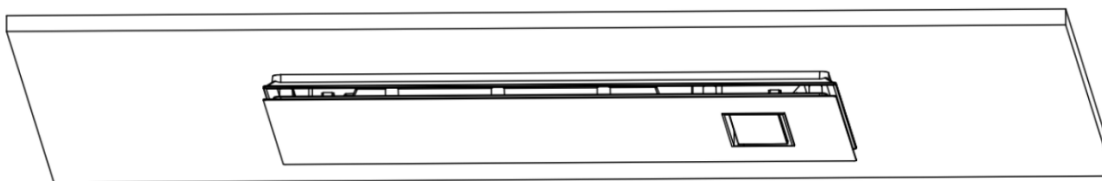

Fig. 9
13. Insert the remaining 2 sets of spring clips into the housing slots of the THERMABREEZE unit, and attach the fascia, making sure all fixing clips have located correctly. Ensure the three cable connectors and wires are not near the heater while replacing fascia. (Fig.9)